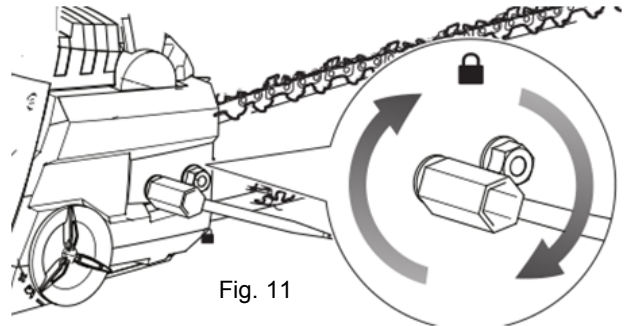

Fig. 11
- Replace the sprocket cover and bar mounting nuts. Finger-tighten the bar mounting nuts. **The bar must be free to move for tension adjustment.** (Fig. 11)